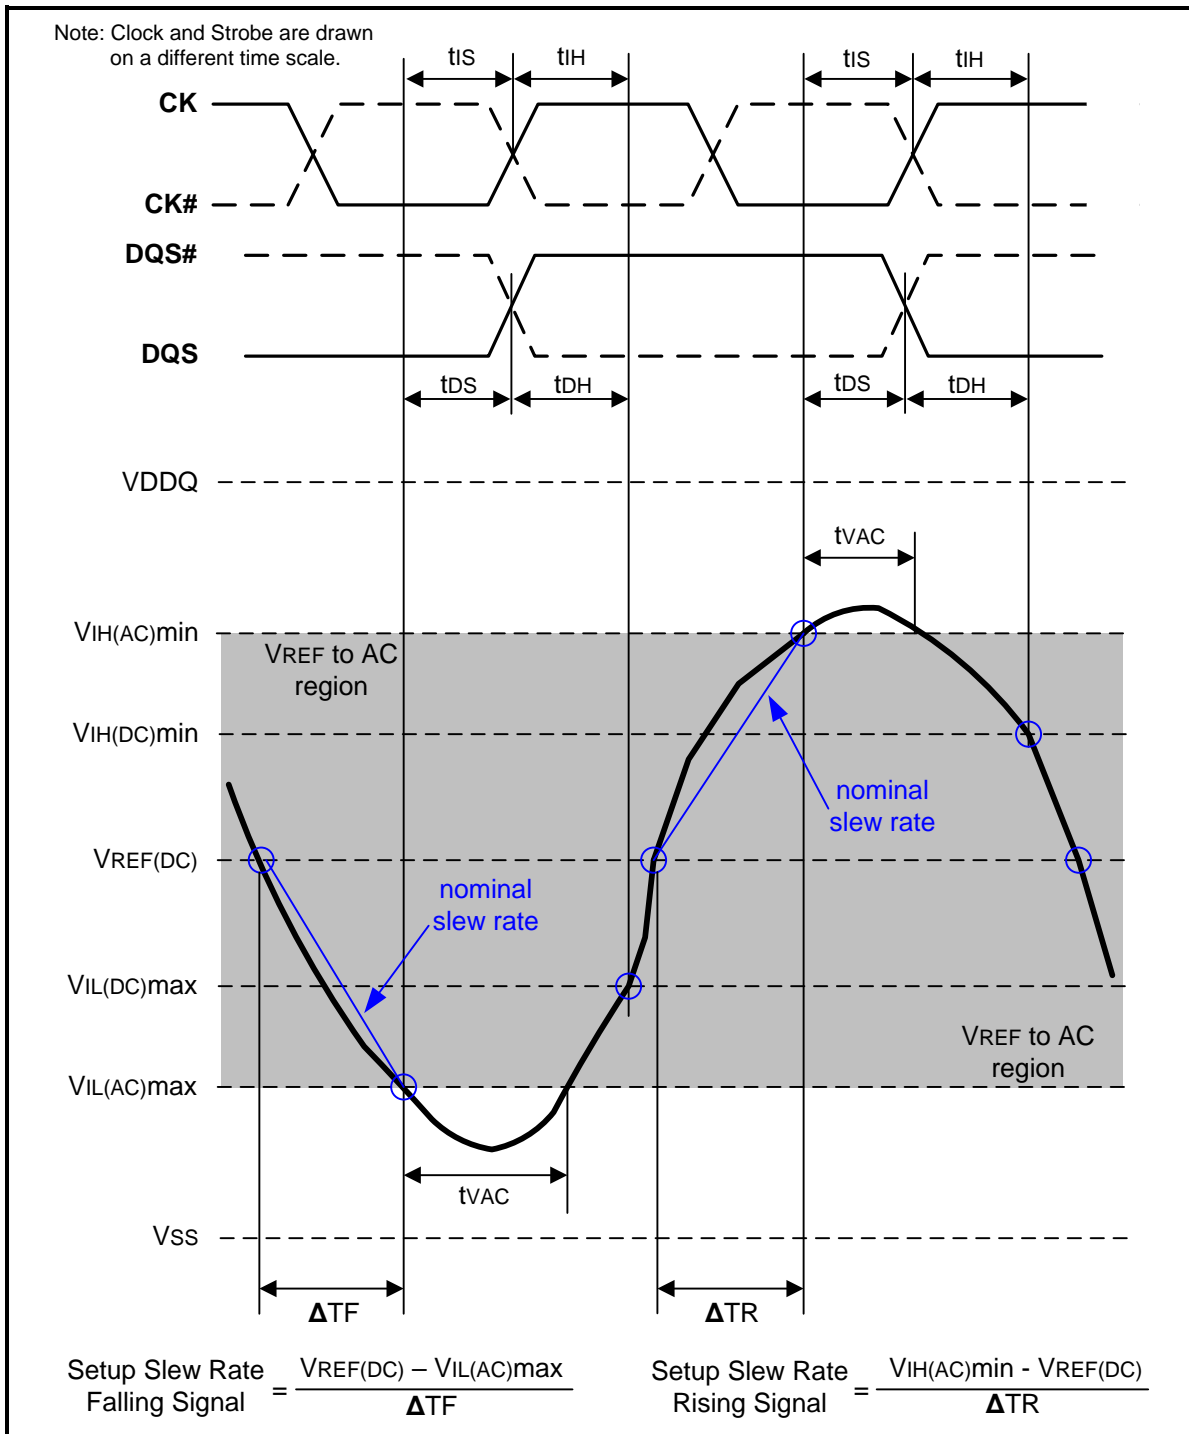
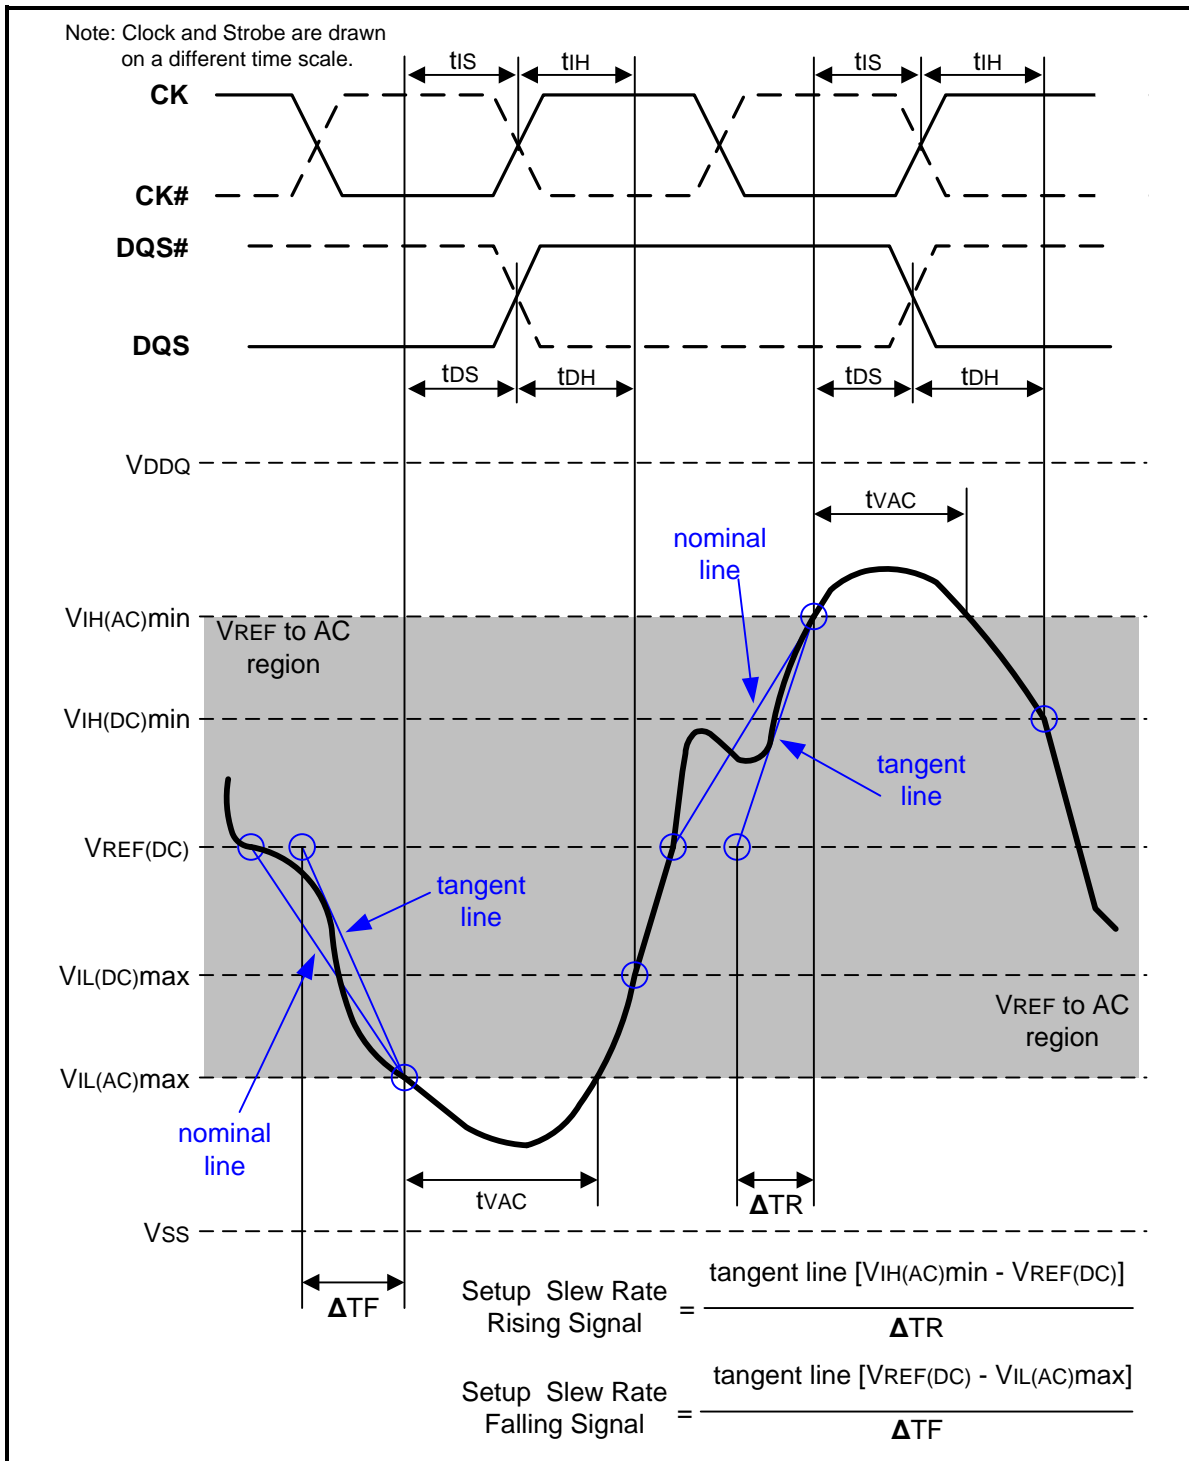

Figure 107 – Illustration of nominal slew rate and tvAC for setup time tDS (for DQ with respect to strobe) and tIS (for ADD/CMD with respect to clock)
Figure 109 – Illustration of tangent line for setup time tDS (for DQ with respect to strobe) and tIS (for ADD/CMD with respect to clock)
Setup ( $t_{IS}$ ) nominal slew rate for a rising signal is defined as the slew rate between the last crossing of  $V_{REF}(\text{DC})$  and the first crossing of  $V_{IH}(\text{AC})_{\text{min}}$ . Setup ( $t_{IS}$ ) nominal slew rate for a falling signal is defined as the slew rate between the last crossing of  $V_{REF}(\text{DC})$  and the first crossing of  $V_{IL}(\text{AC})_{\text{max}}$ . If the actual signal is always earlier than the nominal slew rate line between shaded 'VREF(DC) to AC region', use nominal slew rate for derating value (see Figure 107). If the actual signal is later than the nominal slew rate line anywhere between shaded 'VREF(DC) to AC region', the slew rate of a tangent line to the actual signal from the AC level to  $V_{REF}(\text{DC})$  level is used for derating value (see Figure 109).
Setup (tDS) nominal slew rate for a rising signal is defined as the slew rate between the last crossing of VREF(DC) and the first crossing of VIH(AC)min. Setup (tDS) nominal slew rate for a falling signal is defined as the slew rate between the last crossing of VREF(DC) and the first crossing of VIL(AC)max (see Figure 107). If the actual signal is always earlier than the nominal slew rate line between shaded 'VREF(DC) to AC region', use nominal slew rate for derating value. If the actual signal is later than the nominal slew rate line anywhere between shaded 'VREF(DC) to AC region', the slew rate of a tangent line to the actual signal from the AC level to VREF(DC) level is used for derating value (see Figure 109).